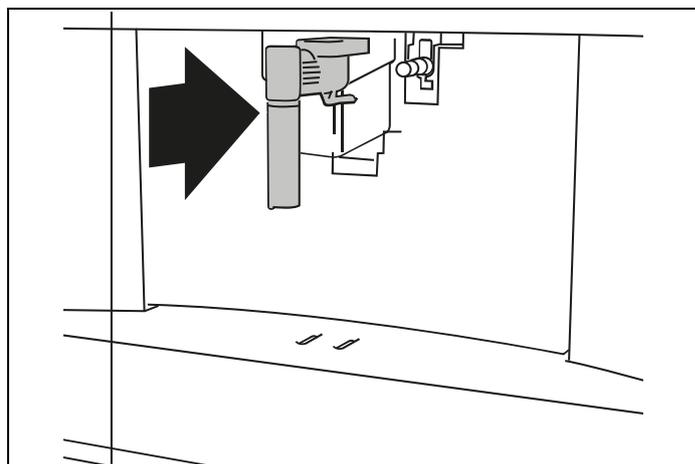
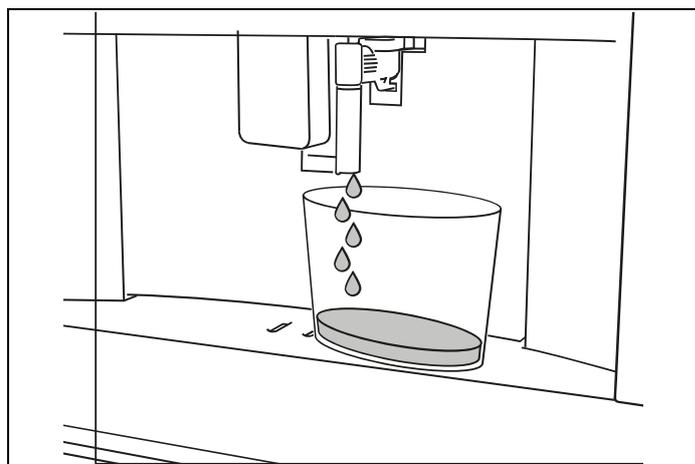

Fig. 21
Fig. 22
- 4) **INSERT WATER OUTLET:** Check that the hot water/ steam spout (C6) is inserted on the connection nozzle (A10) (Fig. 21) and place a container with a minimum capacity of 100 ml underneath (Fig. 22);
6) Press **√ OK** to confirm: the appliance delivers water from the spout (Fig. 22) then goes off automatically.